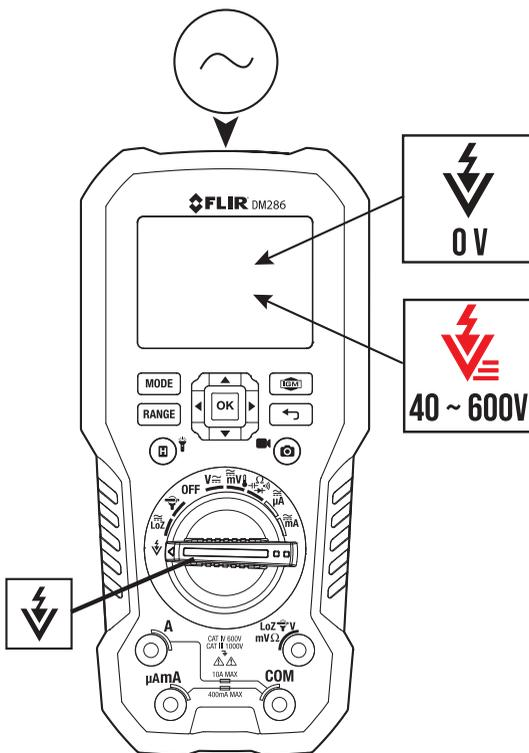

Fig. 9.4 Non-Contact Voltage Detector
1. Set the function switch to the NCV  position. See **Fig. 9.4**.